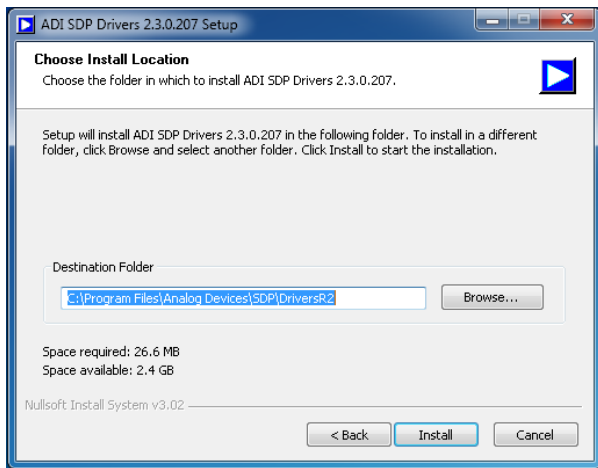

Figure 13. **Choose Install Location**
3. Choose the destination folder for the ADI SDP drivers and click **Install**. The default folder is shown in Figure 13.